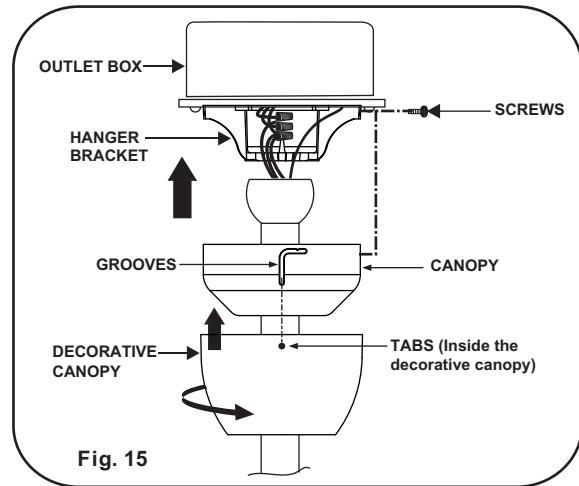

Fig. 15
Step 1. Slide the canopy up to the ceiling. Make sure you have placed the wires safely into the outlet box. (Fig. 15)